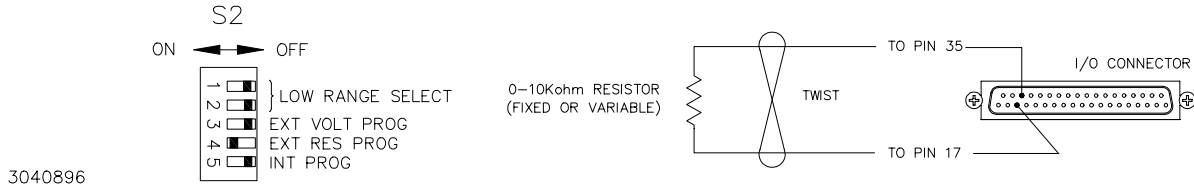

FIGURE 3-1. EXTERNAL RESISTANCE PROGRAMMING OF OUTPUT VOLTAGE
- b) **External Resistance Programming:** When enabled via S2-4, this mode provides for output voltage adjustment via an external resistance or potentiometer (0-10Kohm) connected between pins 17 and 35 (VRP1, VRP2) of the I/O connector (see Figure 3-1). This technique is useful for applications where the voltage output of the power supply must be locked to a preset value without means of adjustment (security), or where the voltage output of the power supply must be remotely adjusted after installation (convenience).